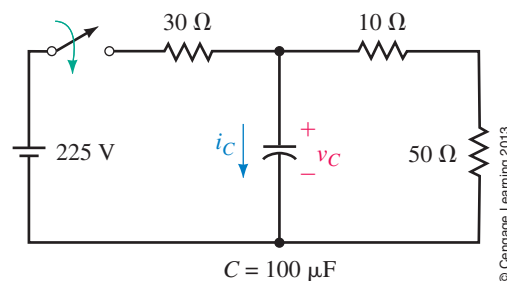

FIGURE 11-56
30. For Figure 11-56, the switch is closed at $t = 0$. Given $V_0 = 0$ V.